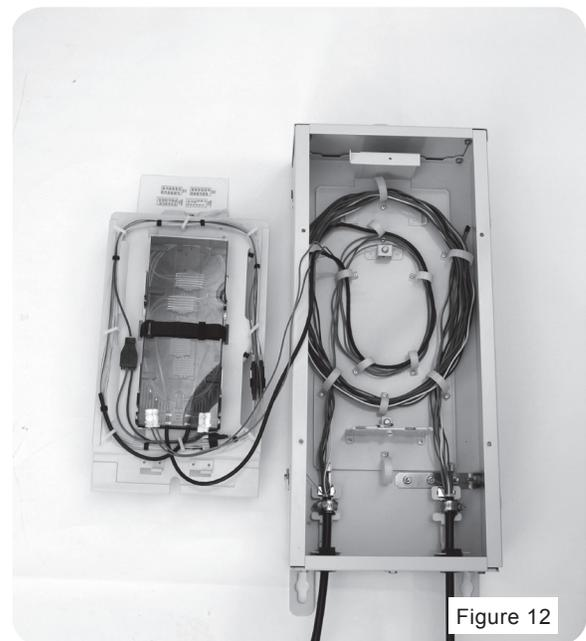

Figure 12
7. When working with ribbon cable, install transportation tubing over any bare or ribbon fibers to be spliced and route the cut ribbon fiber through the inner fiber management rings before entering the splice tray. **(Figure 12)**